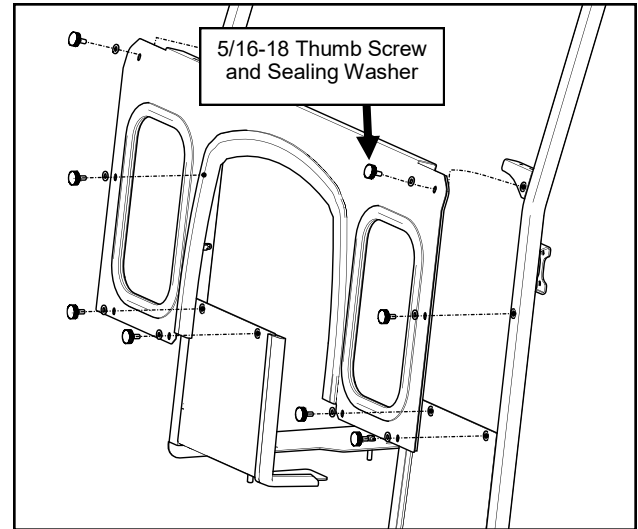

Fig. 6.1 (Install Cowl)
6.1 Slide the cowl on and loosely secure it to the A-pillars with sealing washers on all the thumb screws. See Figure 6.1. For best water seal, make sure the rubber seal folds BACK in towards the cab along the top, then at the bottom fold the rubber out towards the front.